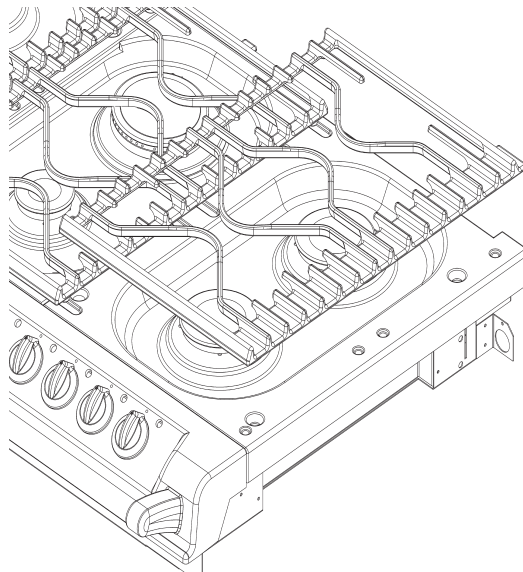
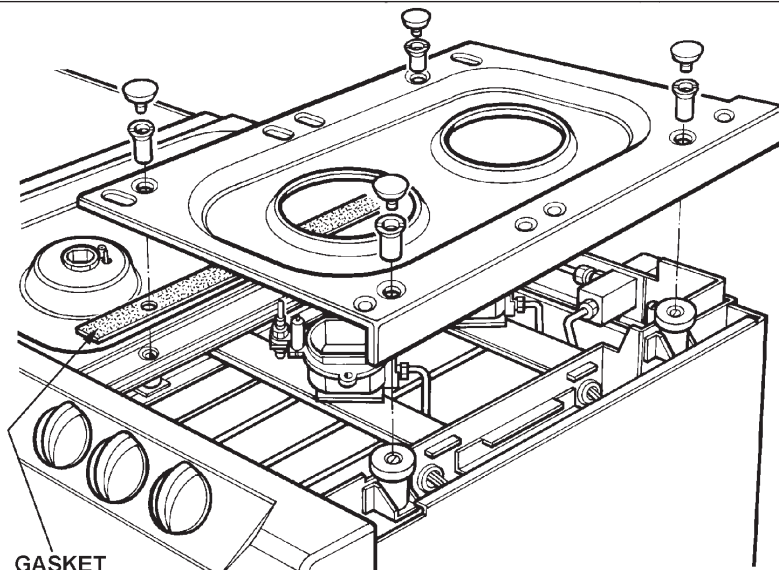

Fig. 31
Fig. 32
2. Remove pan supports and burner caps. (See Fig. 31)
3. Remove burner fixing screws (14) and hotplate fixing nuts (8).
4. Lift off burner fixing rings (6).
5. Lift off hotplate castings in the following order: left hand, right hand and centre. (See Fig. 32).